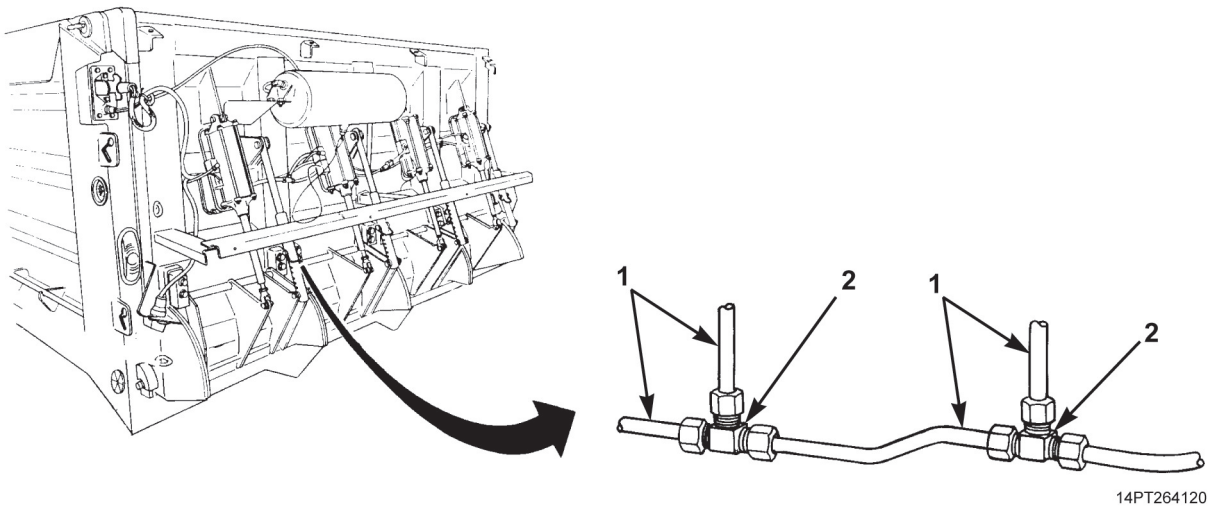

Figure 1. Tailgate Air Fittings Replacement.
1. If removing an air line, disconnect each end of air line (Figure 1, Item 1) at fitting (Figure 1, Item 2).
2. If removing a fitting, disconnect all air lines (Figure 1, Item 1) from fitting (Figure 1, Item 2).
1. If installing a fitting, connect all air lines (Figure 1, Item 1) to fitting (Figure 1, Item 2).
2. If installing an air line, connect each end of air line (Figure 1, Item 1) to fitting (Figure 1, Item 2).